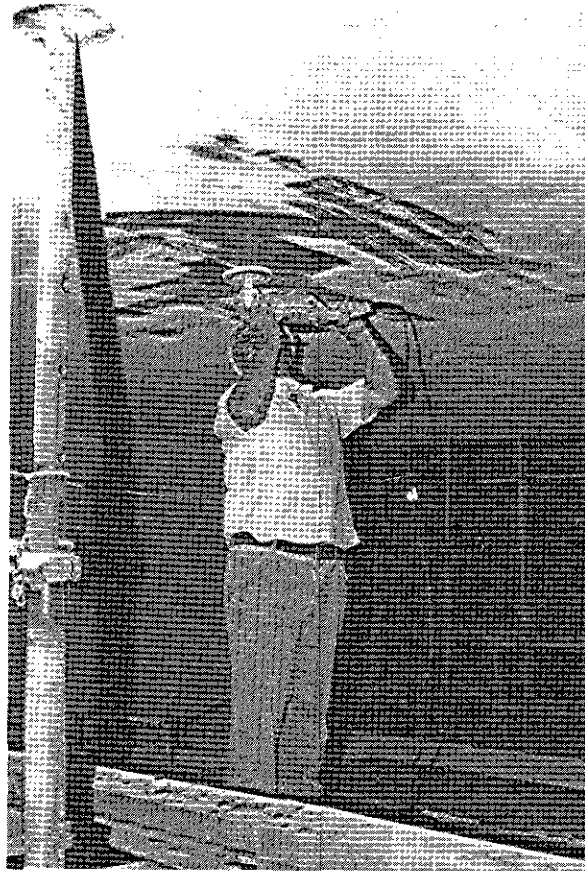

FIGURE 17
- 1) the self-contained hand-held grinder (Figure 17)